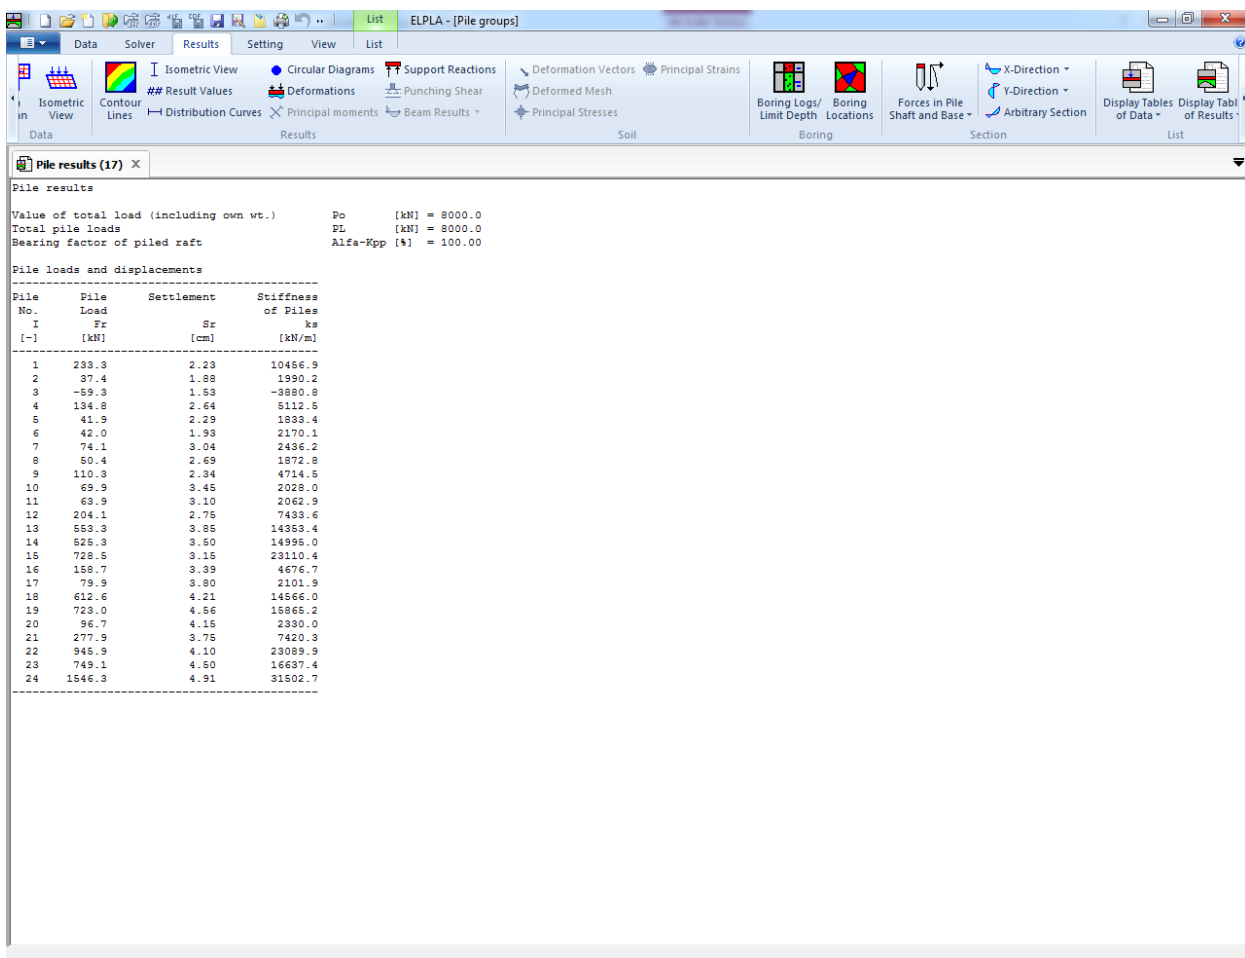

Figure 11.40 List of settlement results
- Click "OK" button. The pile results are now listed (Figure 11.40)